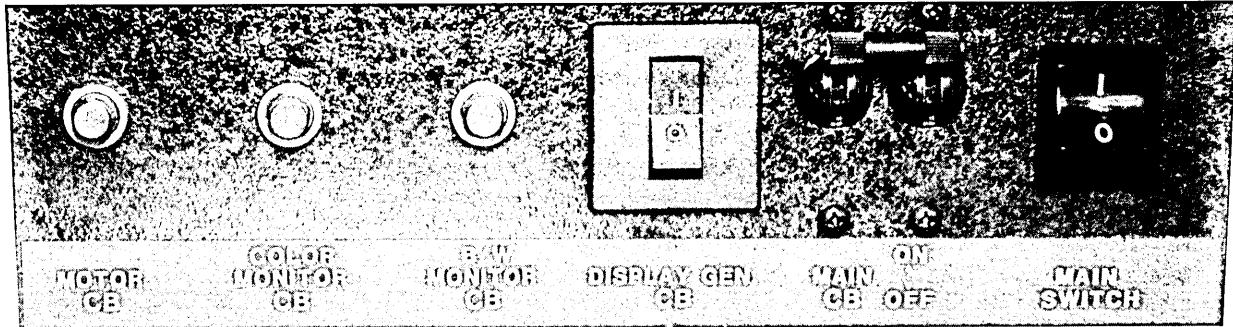

Figure 3-2. Circuit Breaker Panel
2. Open circuit breaker door (figure 2-5) to gain access to circuit breaker panel (figure 3-2), and check that all five circuit breakers are on.